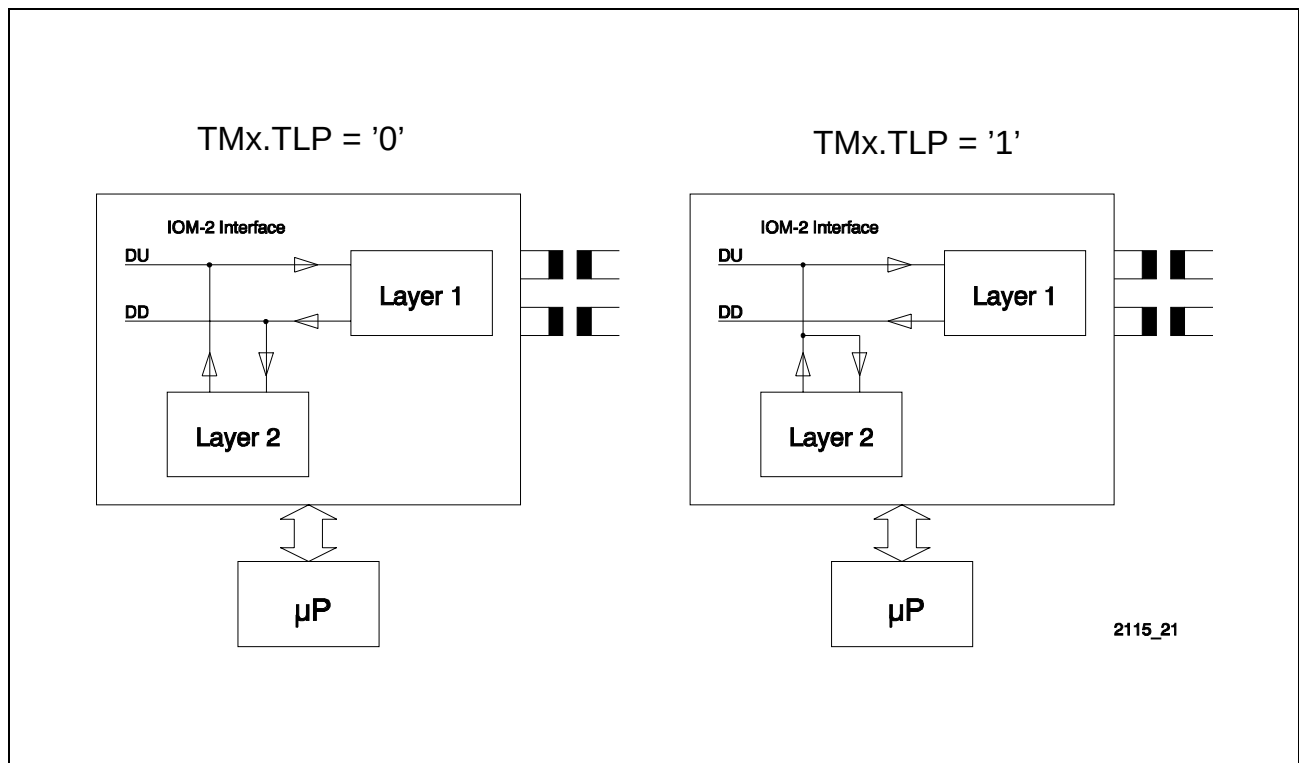

**Figure 80 Layer 2 Test Loops**
- Digital loop via TLP (Test Loop, TMD and TMB registers) command bit (Figure 80): The TX path of layer 2 is internally connected with the RX path of layer 2. The output from layer 1 (S/T) on DD is ignored. This is used for testing ISAC-SX functionality excluding layer 1 (loopback between XFIFOx and RFIFOx).